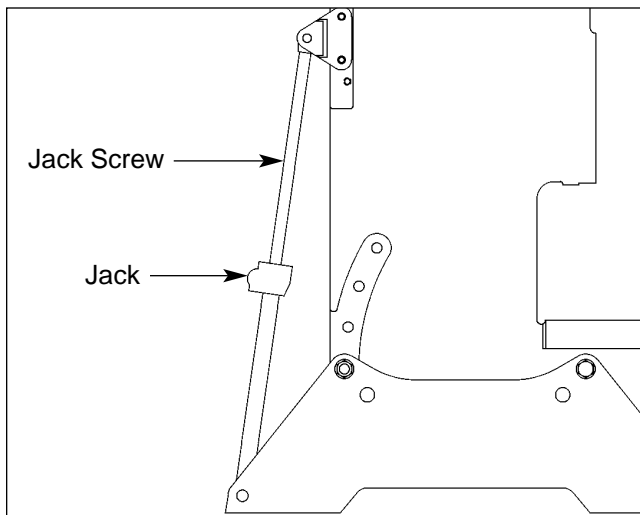

Figure 3D. Jack lubrication.
5. Lubricate the (optional) inclining jack (OBI presses only). Lubricate the jack gear box with one shot of an approved lubricant meeting the specifications of Minster Lubricant No. 2. (See Figure 3D.) Hand lubricate the screw threads with an approved lubricant meeting the specifications of Minster Lubricant No. 1.